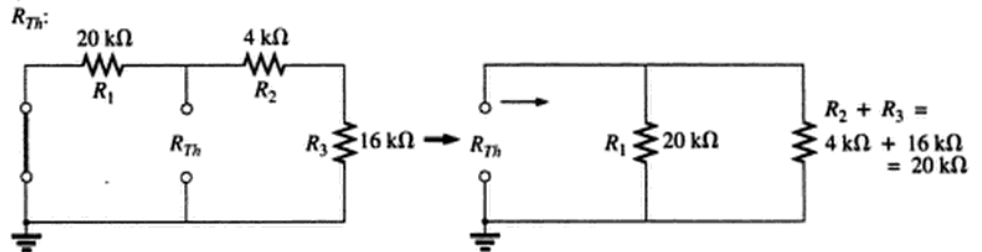

FIG. 11.47
- Applying Thévenin's theorem to the 80 mH inductor (Fig. 11.47) yields